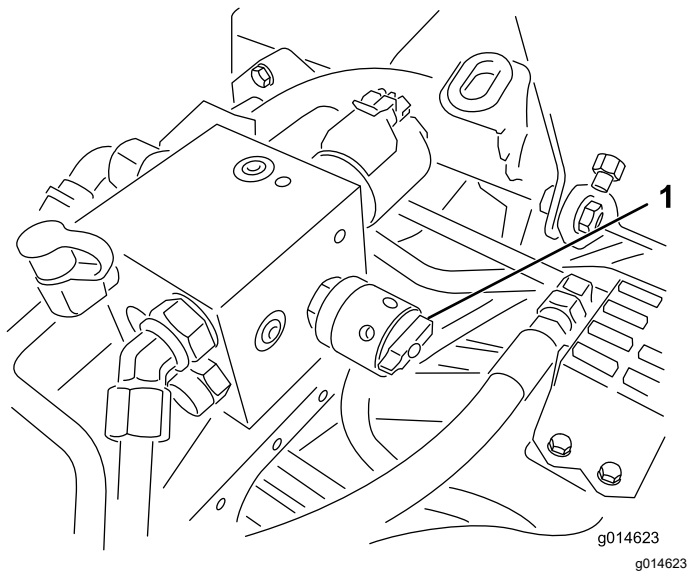

Figure 60
6. Rotate the reel-speed control to setting 1 (Figure 60).
4. Adjust the reel speed by rotating the knob (Figure 60) until the indicator arrows are in line with the number you determined in step 3.